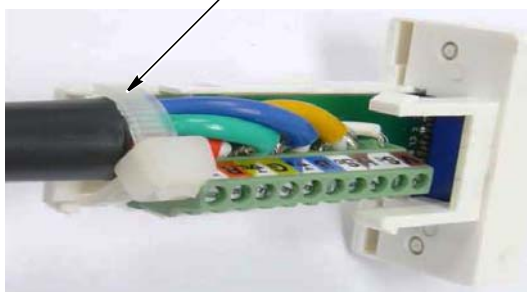

Figure 6
5. After all wires are connected, for strain relief, it is highly recommended to secure the cable to the back of the connector using a cable tie. See Figure 6.